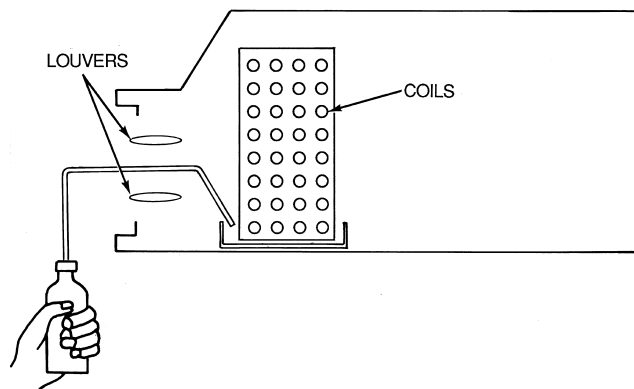

Fig. 22 — Inserting Water into Drain Pan
- b. On the opposite side of the drain connection, insert a water bottle up into the fan coil unit and fill drain pan. Refer to Fig. 22. Water must flow steadily; if not, check the pipe slope or inspect for any pipe restrictions.